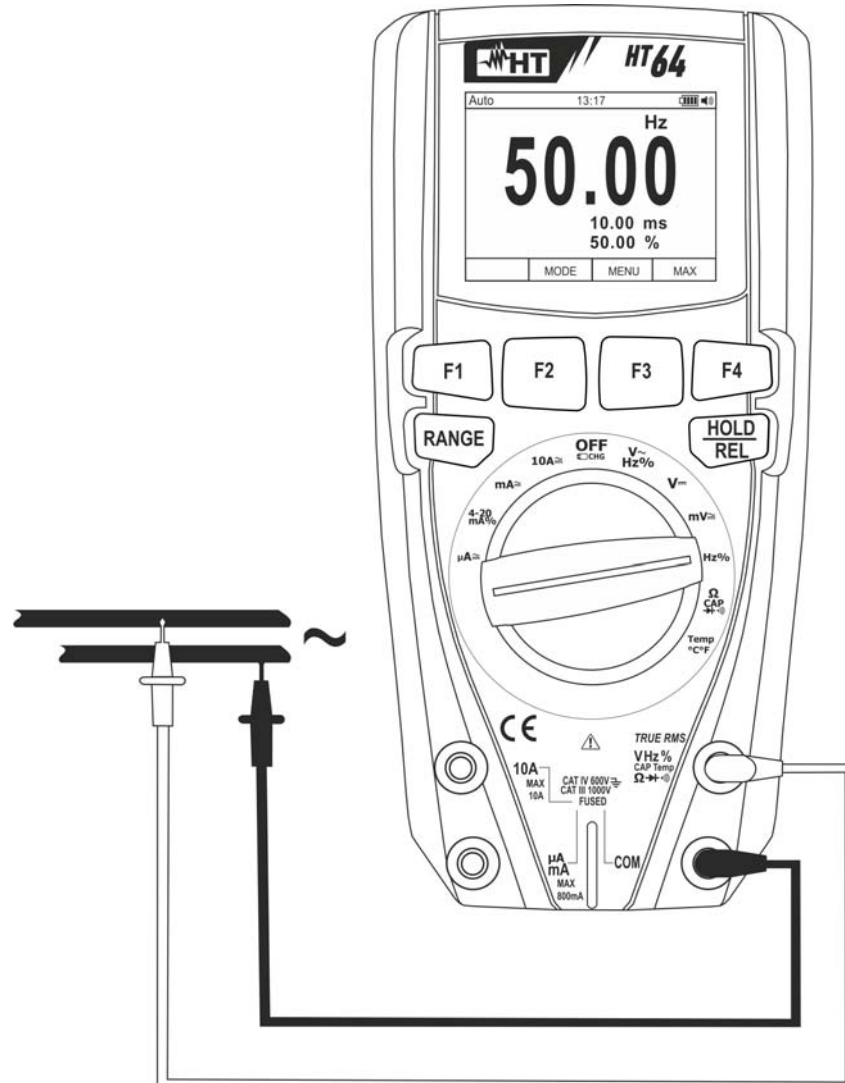

Fig. 24: Use of the instrument for frequency measurement and duty cycle test.
4. Position the red lead and the black lead respectively in the spots of the circuit to be measured (see Fig. 24). The value of frequency (Hz) or of duty cycle (%) is shown on the display. The bargraph is not active in these functions.